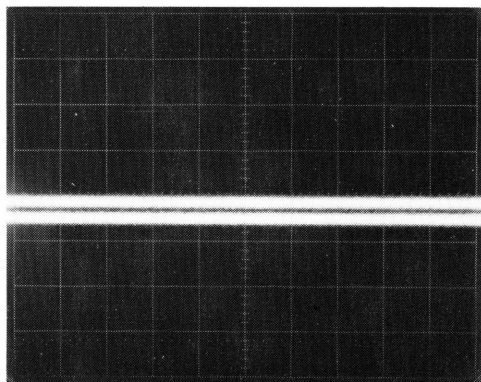

Fig. XI-5 Noise measurement: dark band still visible
- Reduce the amplitude of the square wave until the dark band between the two noise bands just disappears (see Fig. XI-5 and 6). Note that this adjustment should be carried out slowly, because it is difficult to see whether the dark band has just vanished or not.